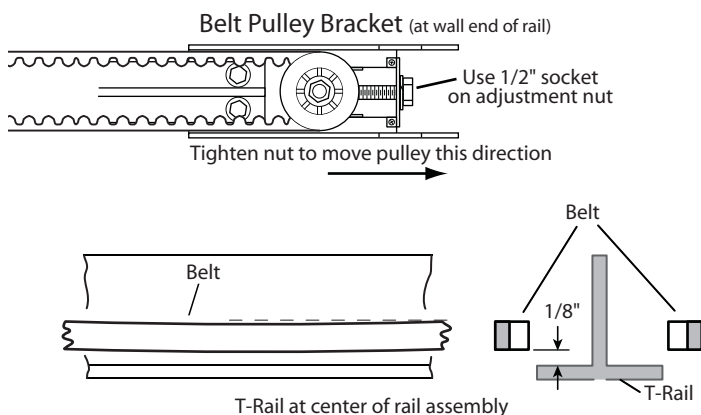

FIG. 1-4 Belt adjustment.
2. Tighten the belt by turning the adjustment nut clockwise. The belt adjustment nut is located in the Belt Pulley Bracket (opposite rail end from the power head) (Fig. 1-4).
3. Tighten belt until belt is approximately 1/8 inch above the base of the rail at midpoint on the rail (Fig. 1-4). Do not over tighten belt.